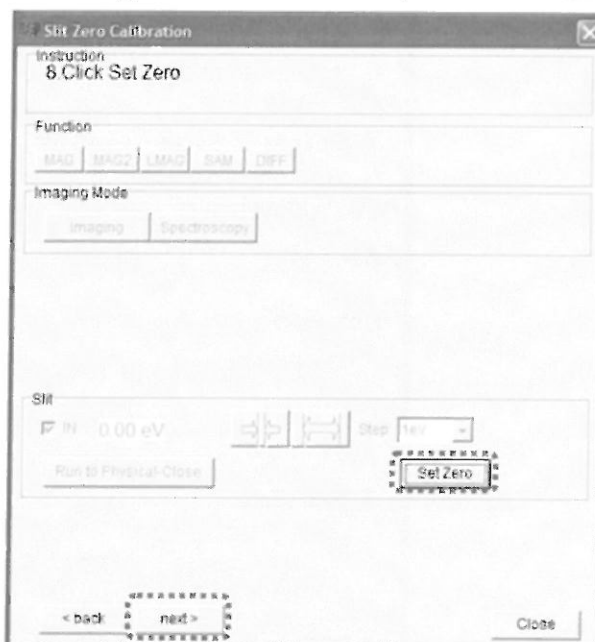

Fig. 5.63 Slit Zero Calibration - 8. Click Set Zero
8. Follow "Instruction – 8. Click Set Zero", and click the **Set Zero** button (Fig. 5.63). After clicking the **Set Zero** button, click the **next** button to proceed.